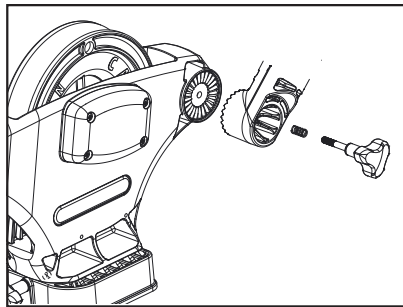

Figure 7
1. Attach the rod holder elbow to the downrigger on the left side using the supplied spring and knob. (Figure 7)